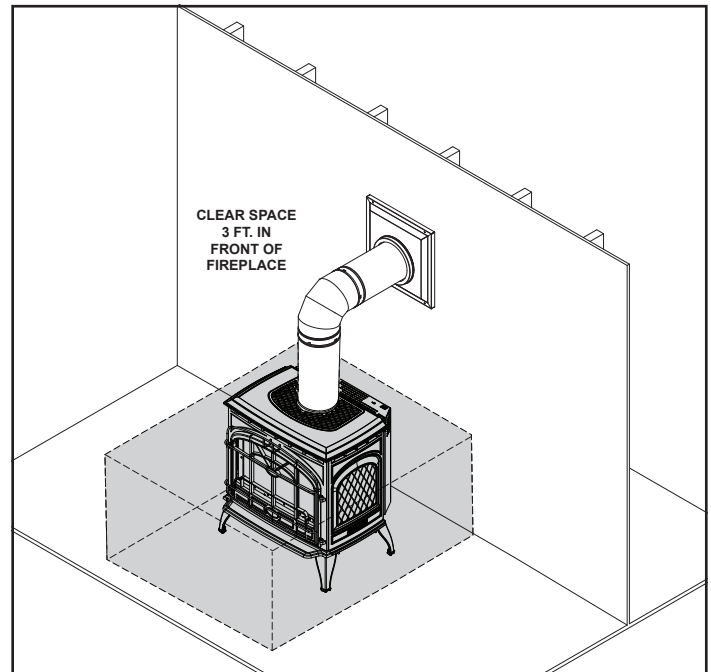

Figure 3.1 - Clear Space
**WARNING! DO NOT place combustible objects in front of the stove or block louvers.** High temperatures may start a fire. Figure 3.1.
Avoid placing candles and other heat-sensitive objects on top of appliance or in clear space. Figure 3.1. Heat may damage these objects. See appliance installation manual for additional clearance information.